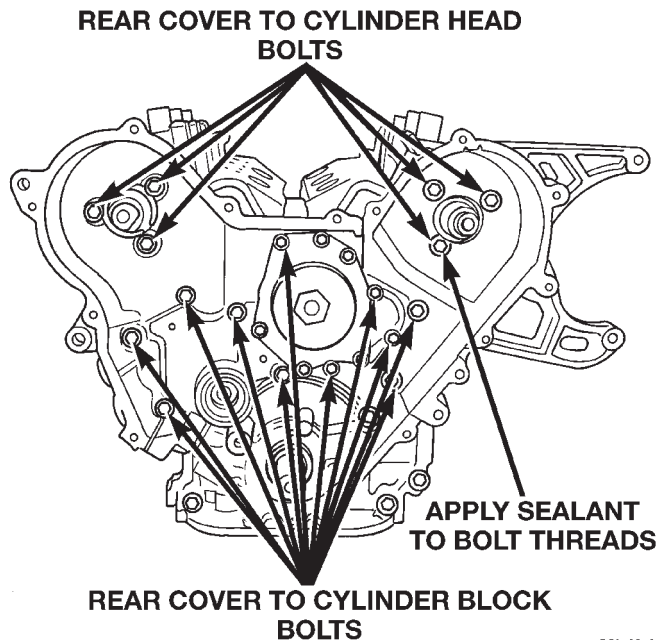
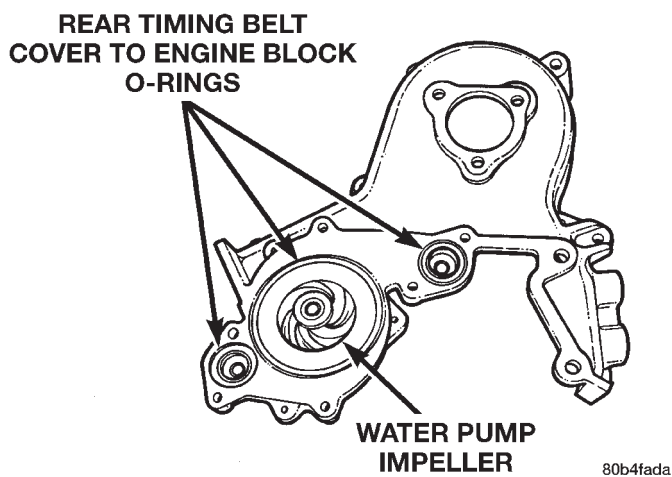

Fig. 38 Rear Timing Belt Cover Attaching Bolts
Fig. 39 Right Side Timing Belt Cover Water Pump O-Rings
(6) Remove rear timing belt cover to cylinder head fasteners (Fig. 38). Remove the rear covers.
(7) The right side rear timing belt cover has O-rings to seal the water pump passages to cylinder block (Fig. 39). Do not reuse O-rings.
(7) Clean right rear timing belt cover O-ring sealing surfaces and grooves. Lubricate new O-rings with synthetic grease to facilitate assembly.
(8) Install rear timing belt covers (Fig. 38). (Fig. 39). Tighten bolts to specified torque:
(9) Install camshaft sprockets and timing belt. Refer to procedure in this section.
(10) Install timing belt covers. Refer to procedure in this section.
(11) Install intake and exhaust manifolds. Refer to Group 11, Intake and Exhaust Manifolds for procedures.
(12) Install crankshaft damper.
(13) Fill cooling system. Refer to Group 7, Cooling System for procedure.